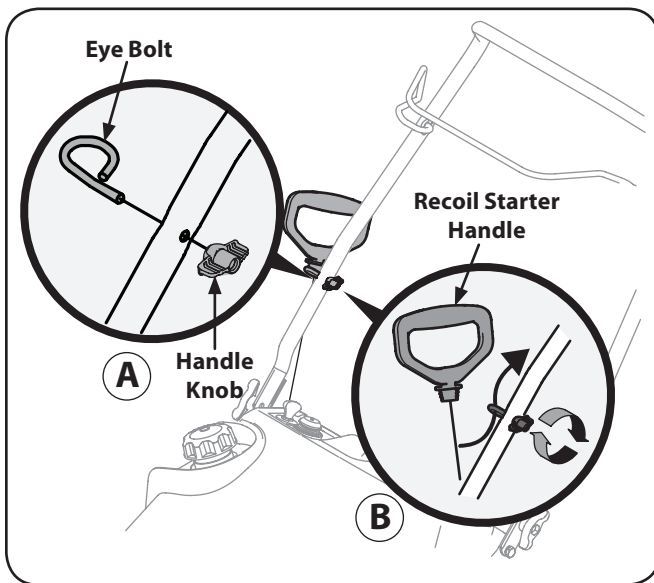

Figure 3-5
2. Place the eye bolt and handle knob on the upper handle as shown in Figure 3-5. Do not fully tighten the hardware until instructed to do so.
4. Slip the recoil starter rope into the eye bolt from the back of the snow thrower. See Figure 3-5.